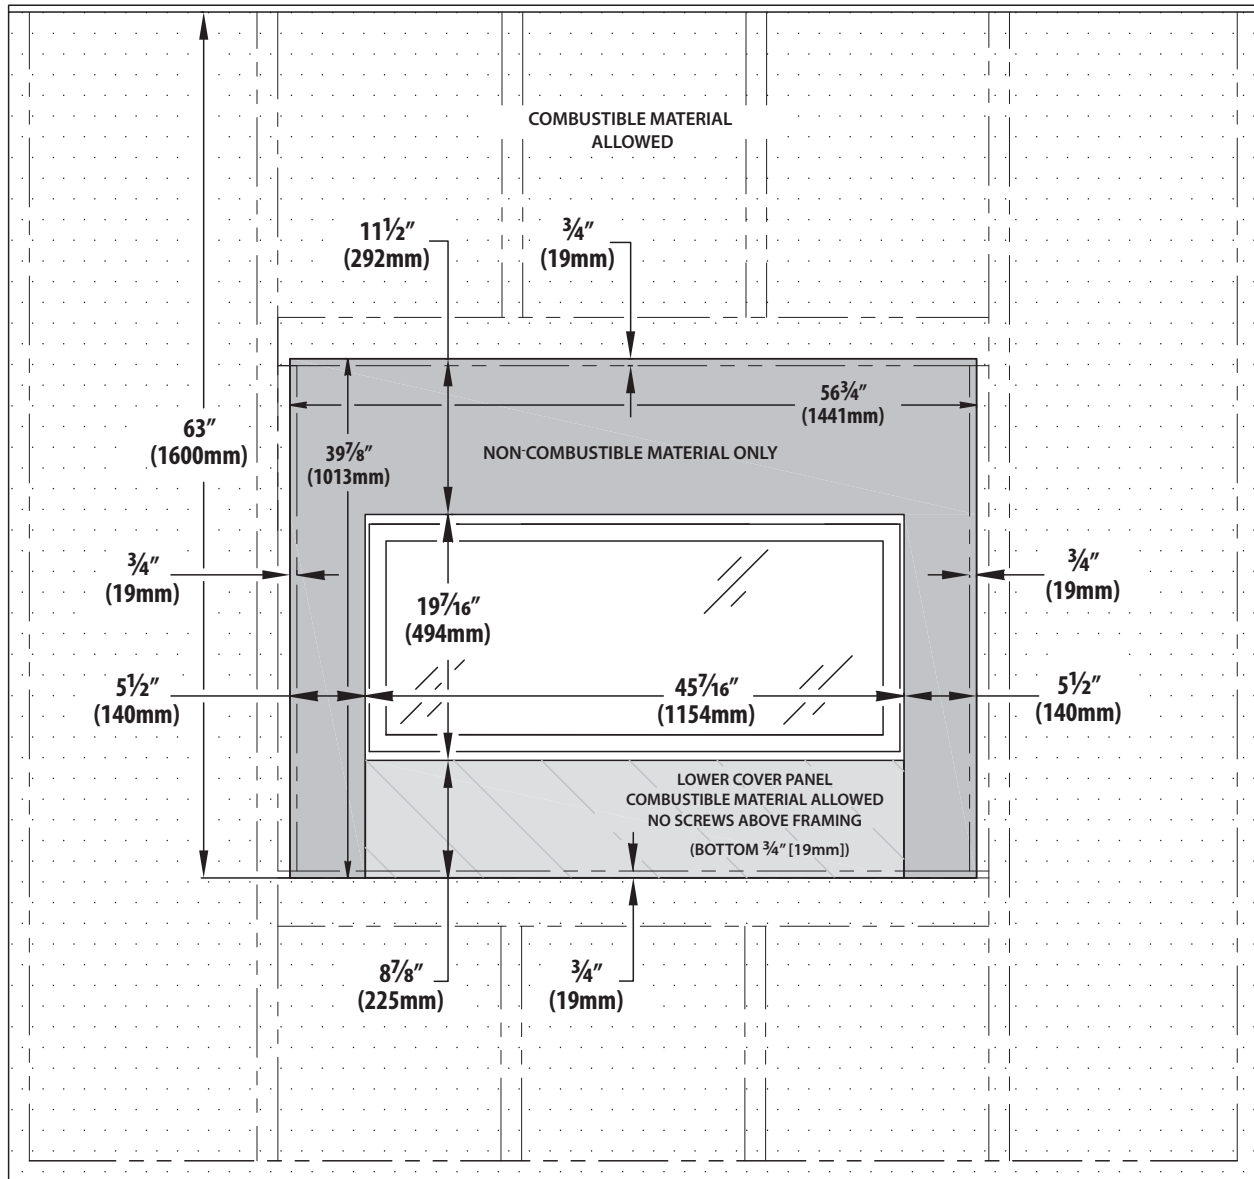

FIGURE 4.3 Minimum Non-Combustible Material Dimensions
- It is acceptable to pre-drill holes and to use self-tapping screws to attach the non-combustible material to the top and sides of the fireplace face. See **FIGURE 4.3** on page 23.